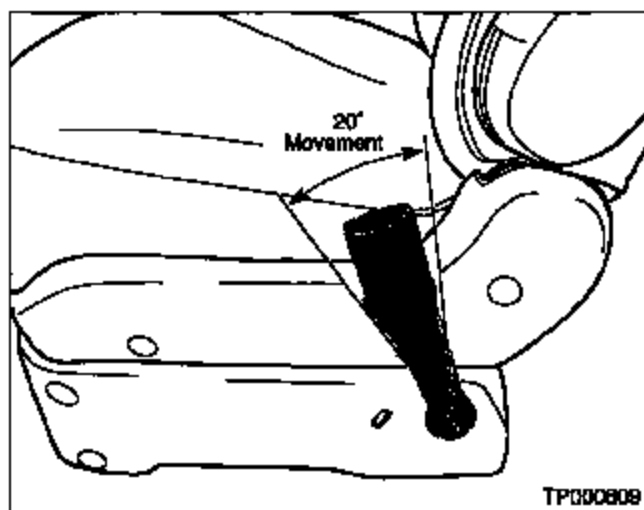

Figure 5
5. Confirm the seat belt buckle can freely move (back and forth) about 20 degrees (see Figure 5). If the buckle cannot be freely moved (i.e., there is stiff or no movement), loosen and re-tighten the buckle mounting bolt ensuring the buckle trim cover does not get caught between the buckle and the seat.